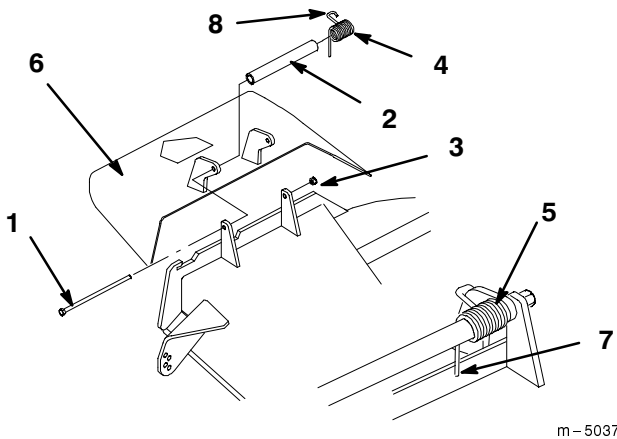

Figure 53
1. Remove the locknut, bolt, spring and spacer holding the deflector to the pivot brackets (Fig.53). Remove damaged or worn grass deflector.
Note: Make sure the straight end of spring is installed behind deck edge before installing the bolt as shown in figure 53.
- Install bolt and nut. Place hook end of spring around grass deflector (Fig.53).